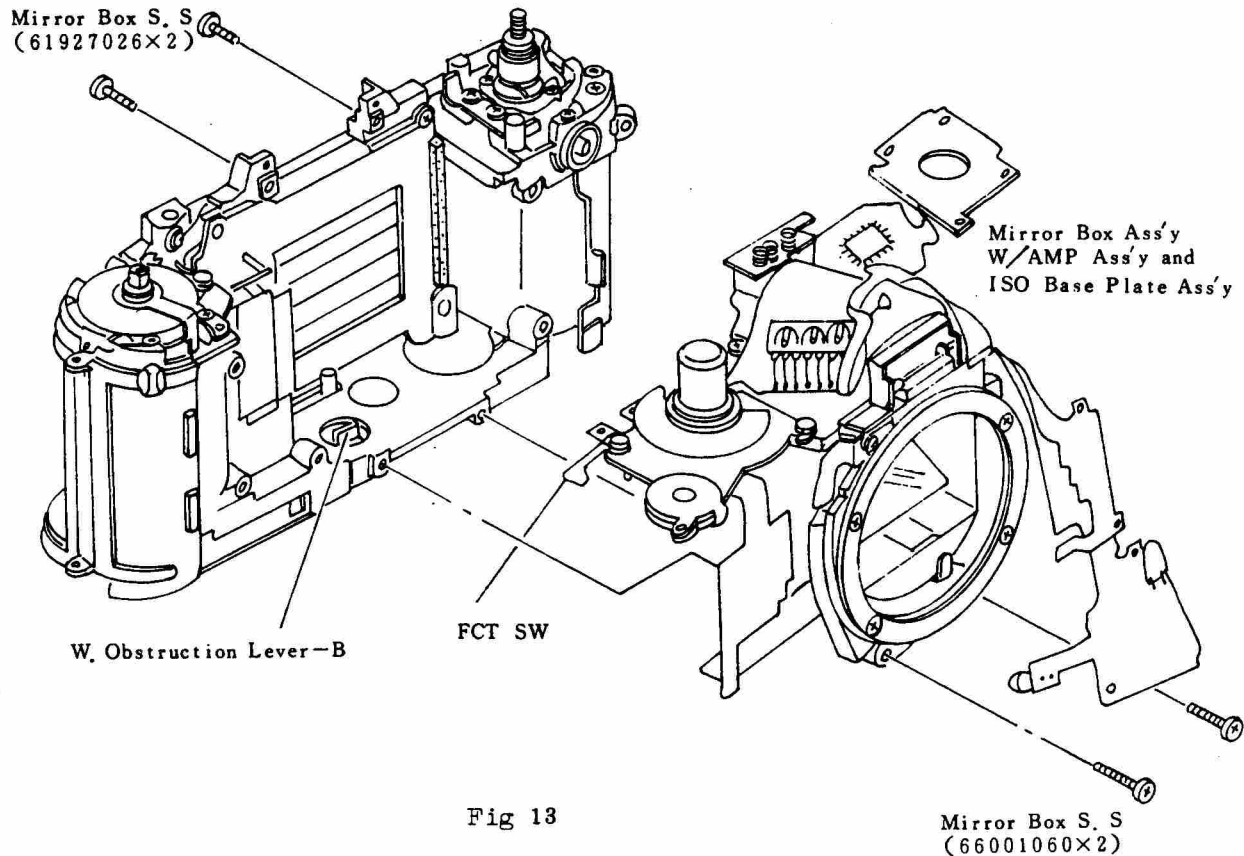

Fig 13
(Fig 13)
- Mount the Mirror Box parallel with front side of the camera body and Pin of ACL-1 (Fig 18) at the front of W.Obstruction Lever - B (Fig 13).